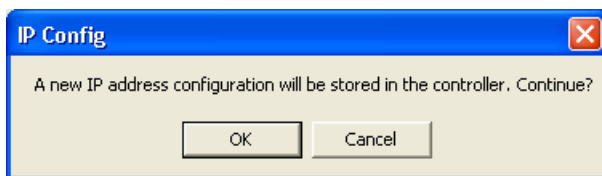

Figure 56. IP Config confirmation dialog window
5. Type Primary Ethernet Interface Subnetmask (255.255.252.0) and click **Set IP**. The new address is sent to the PLC and an IP Config window opens, see Figure 56.